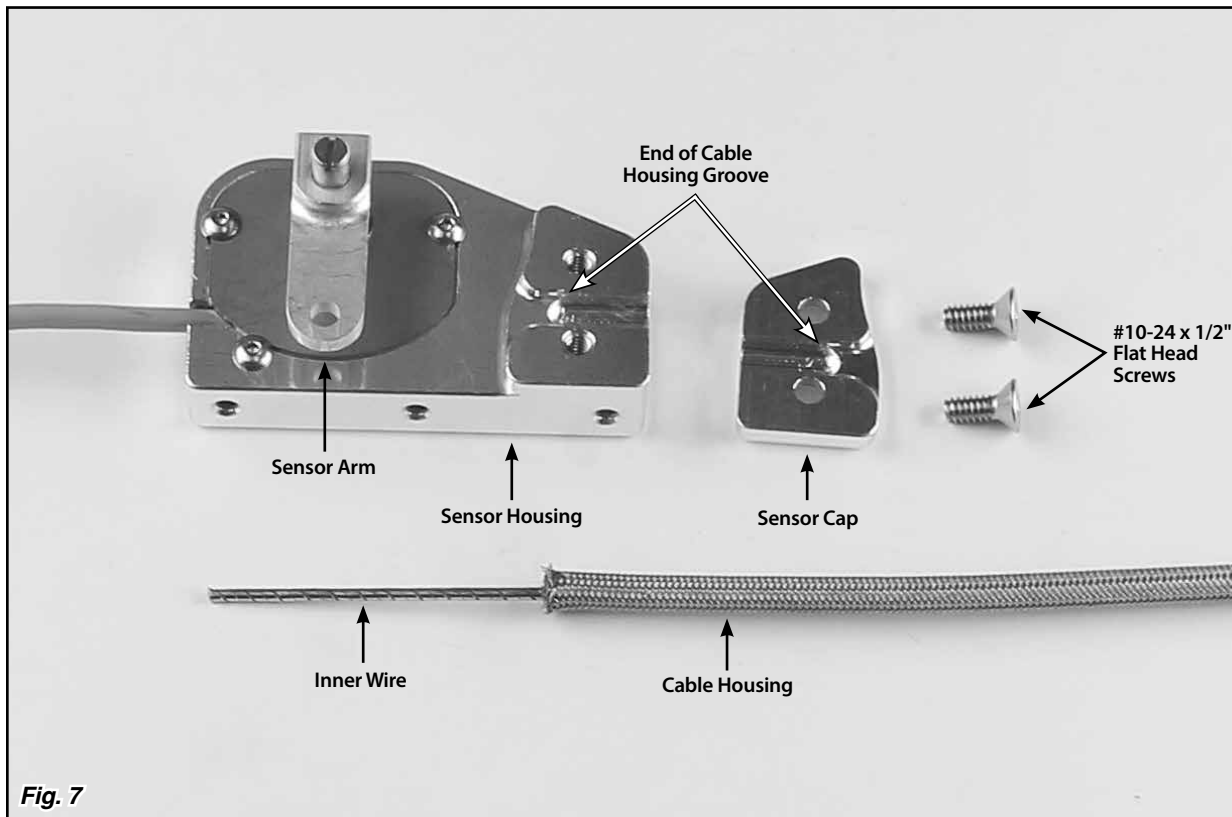
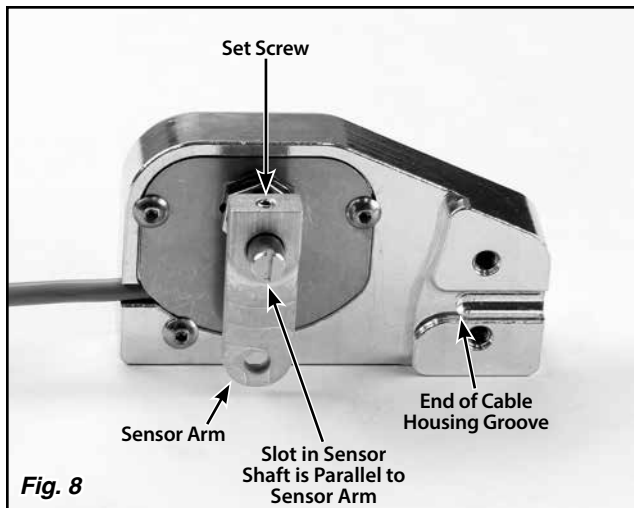

Fig. 7
Fig. 8
Step 3: Remove the sensor cap by removing the two #10-24 x 1/2" flat head screws using a 1/8" Allen wrench, and separate the cable housing from the sensor. **Fig. 7**
Step 4: Make sure the sensor arm is parallel to the slot in the sensor shaft, with the set screw in the top of the sensor arm aligned with the slot. If it is not, loosen the set screw in the top of the sensor arm using a 1/16" Allen wrench, and adjust the position of the sensor arm on the shaft. **Fig. 8**
There is a groove in the sensor housing the end of the cable housing fits in to. Mark the cable housing at the end of the cable housing groove. Remove the cable housing from the adjustable cable mounting bracket. **Fig. 7 and Fig. 8**